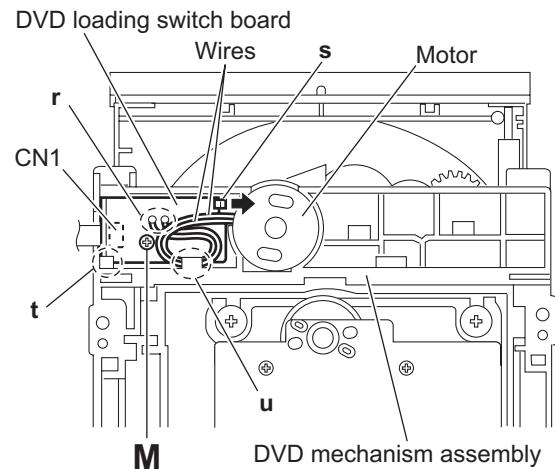

Fig.17
(See Fig.17)
(See Figs.17 and 18)
- (1) From the bottom side of the DVD mechanism assembly, remove the wires from the soldered sections **r** on the DVD loading switch board. (See Fig.17.)